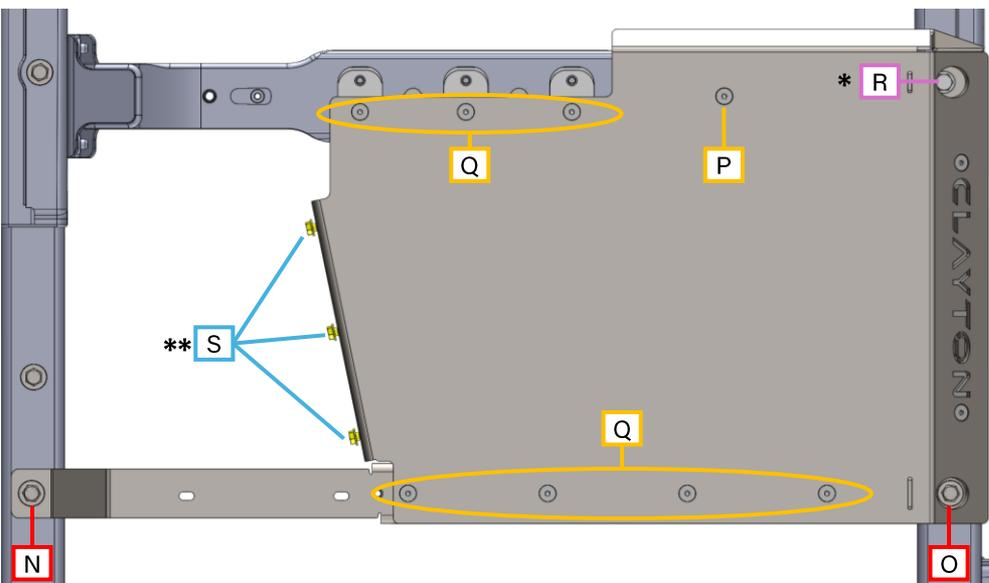

Figure 43 : bolt callouts on transfer case skid plate
36. Proceed with Table 2 while referencing Figure 43. Tighten the transfer case skid plate hardware to the following specification. **Pay attention to the * notes at the bottom of the page.**